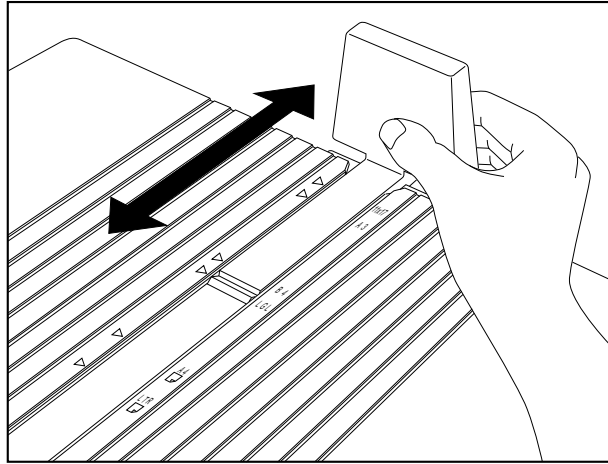

Fig. 2.13 Adjust the Paper Stop
4. Adjust the paper stop on the output tray for the size media you are using (fig. 2.13).
- Adjust the output tray's paper stop for the size media you are using (fig. 2.13).